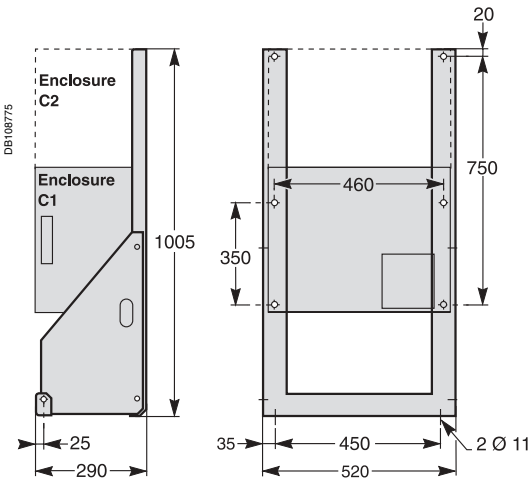

Fig. 8: freestanding plinth for enclosures, cat. no. 52671.
- the enclosures to a wall or to a plinth (fig. 8)